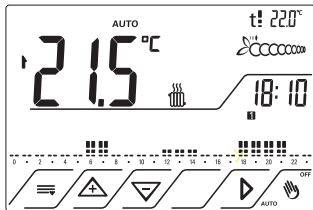
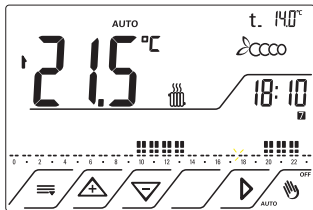

Fig.5
Fig.6
- **Heating program:** from Monday to Friday Fig.5; Saturday and Sunday Fig.6.